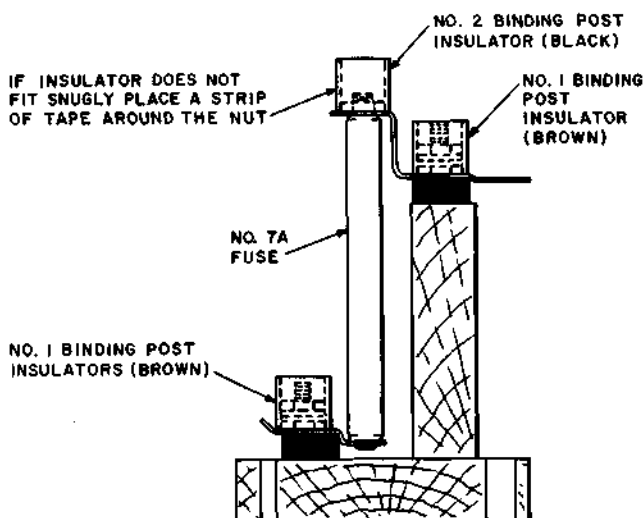

Fig. 36—No. 1 and 2 Insulators on 7-Type Fuse Protector
16.18 On main distributing frames equipped with the 7-type fuse protector, the special circuits may be identified at the fuse by the No. 1, No. 2, and No. 3 binding post insulators. The No. 1 insulator is used over the binding posts equipped with hexagonal nuts measuring 3/8 inch across the flats and also the 7T fuse. The No. 2 insulator is used over binding posts having nuts measuring 7/16 inch across the flats and also the 7A fuse. The No. 3 insulator is used over the screw-type binding posts of the BD-type cable terminals. (See Fig. 36.)